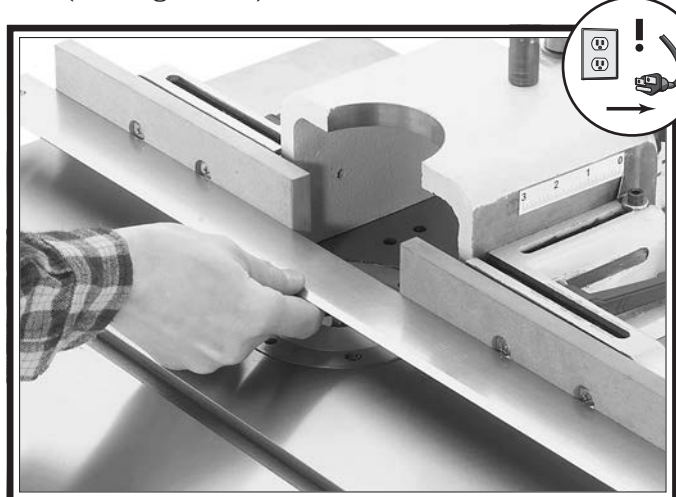

Figure 90. Example of aligning fence faces.
4. Place straightedge against both fence faces (see **Figure 90**).